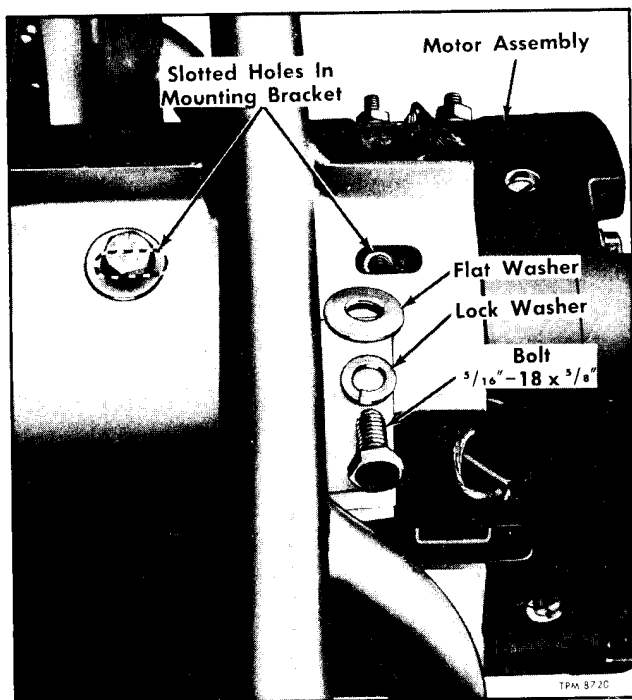

Figure 47—Underfloor Blower Motor Mounting
4. If sufficient adjustment cannot be obtained, the motor can be repositioned in motor support by use of slotted attaching bolt holes (fig. 47). Tighten bolts firmly after making adjustment.
3. Remove four bolts which attach motor to motor support (fig. 47).
2. Align motor mounting tapered holes with slotted holes in support. Install four bolts (5/16"-18 x 5/8") with washers as shown in figure 47. Tighten bolts firmly, even though they may have to be loosened later when fan blade is installed or aligned later.